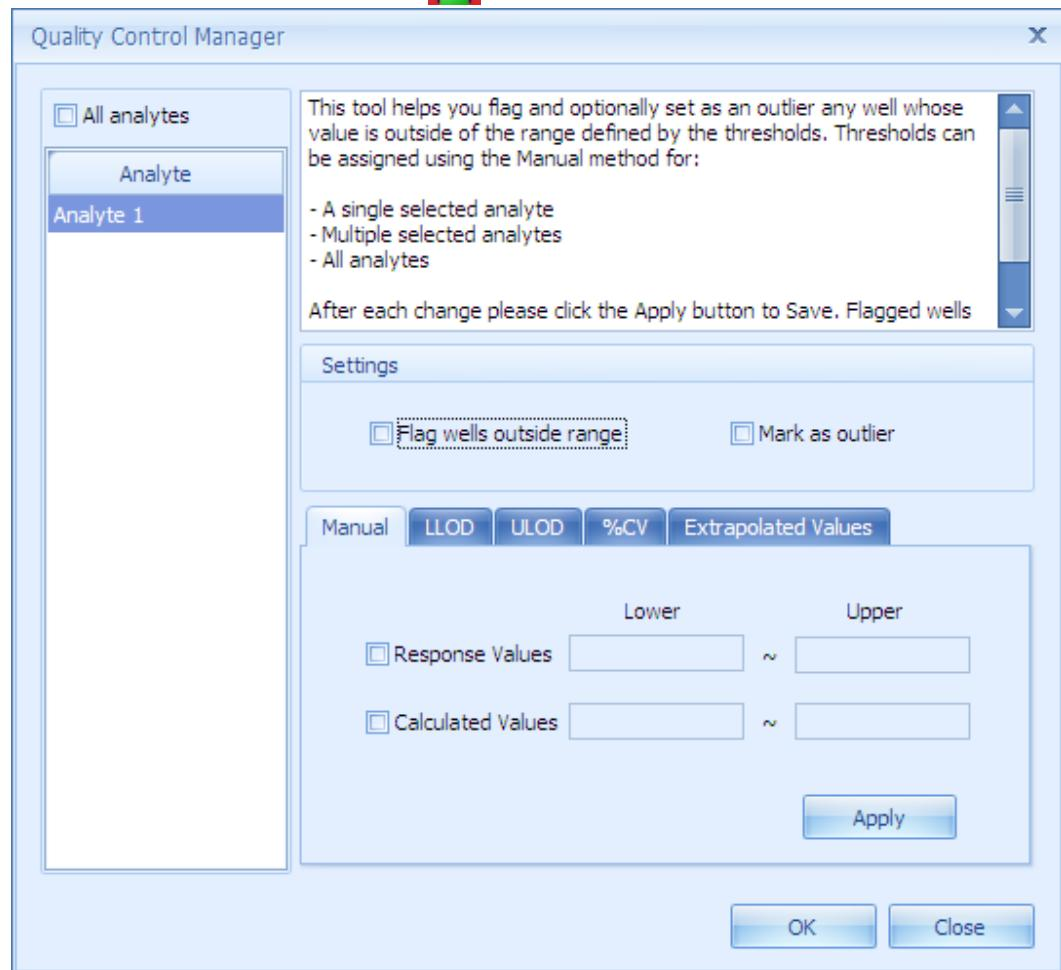

Figure 4.47 Quality Control Manager dialog
- To open the Quality Control Manager (Figure 4.47), click the **Quality Control Manager** button .